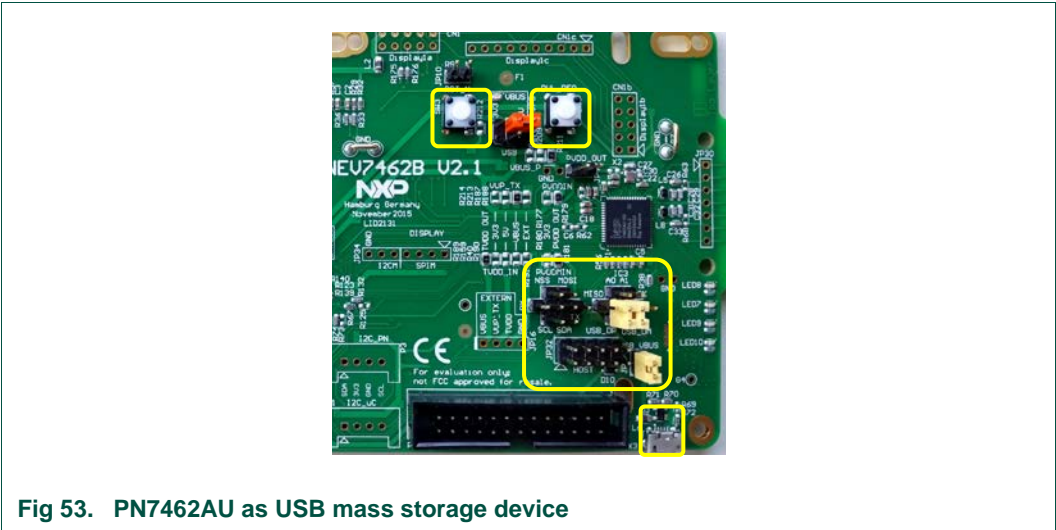

Fig 53. PN7462AU as USB mass storage device
- Ensure that "HIF selection" is USB, see Fig 53